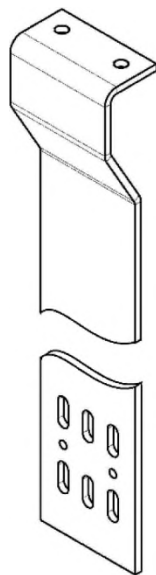
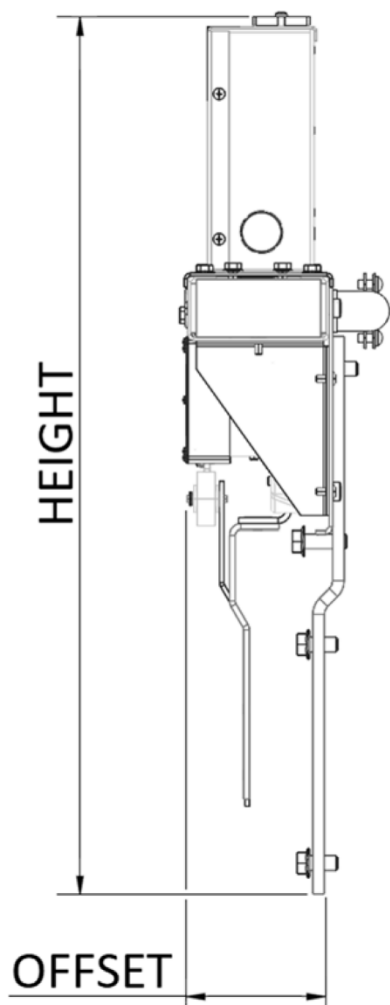
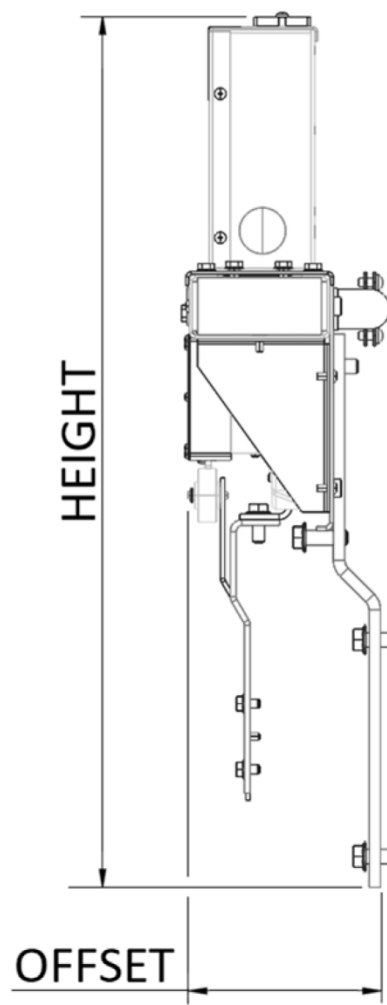

Figure 2: Door Interface Bracket for High Operator Mounting
Figure 7: Otis Glide A Space Requirements for C/O & S/S with Header Mount Brackets (see Table 4)
Figure 8: Otis Glide A Space Requirements for 2/S with Header Mount Brackets (see Table 4)
NOTE 1: When installing a Glide A door operator of any hand on a cab where header mounting bracket are not utilized (as seen in Figure 7 and Figure 8), purchase (1) bracket AAA283BKX5 (Figure 2) per operator. **This bracket is 24.4 in. long and provides extra length beyond what is available within the standard Glide A packaging.** This is not needed if the condition in the following NOTE 2 exists. Bracket sold separately, i.e. not included in any kit.